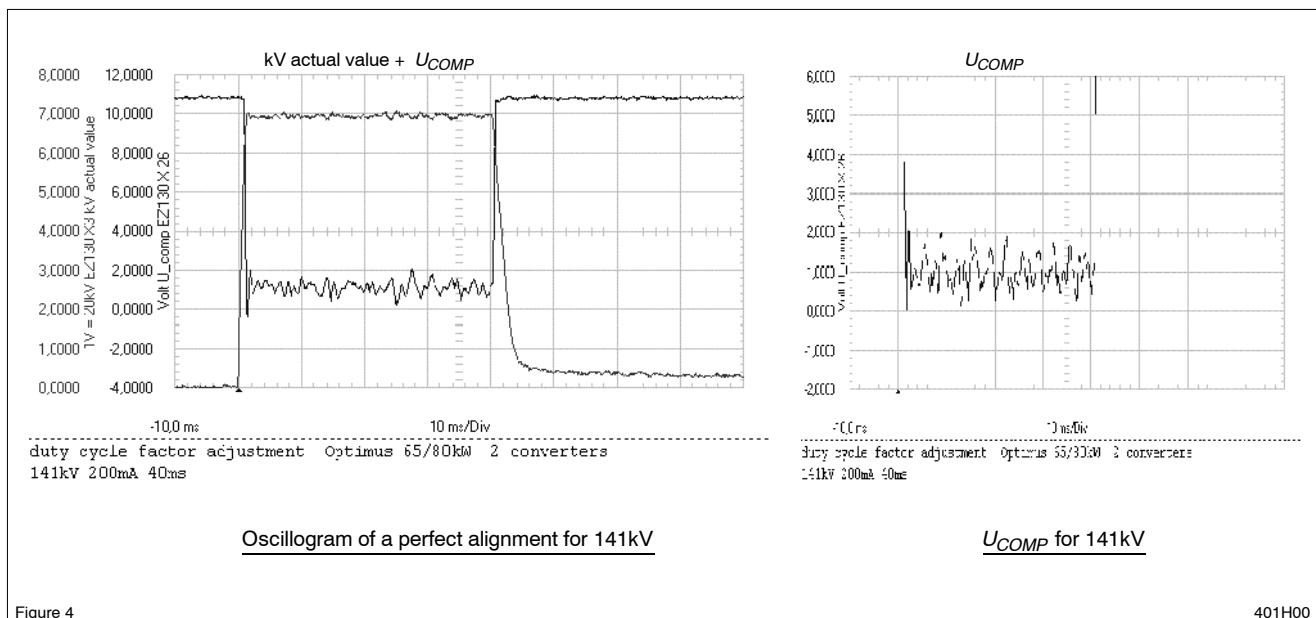

Figure 4
Result: In standby the U_{COMP} value is at about +11V, during exposure the mean value U_{COMP} must be as given in table 1 or 2, refer to figure 4:
- Read the mean value of U_{COMP} for 141kV (see scope figure 4 or 5), correct the Factor Duty Cycle till U_{COMP} meets the required reference of +1V.
- Read the mean value of U_{COMP} for 125kV (in principle figure 4 or 5).